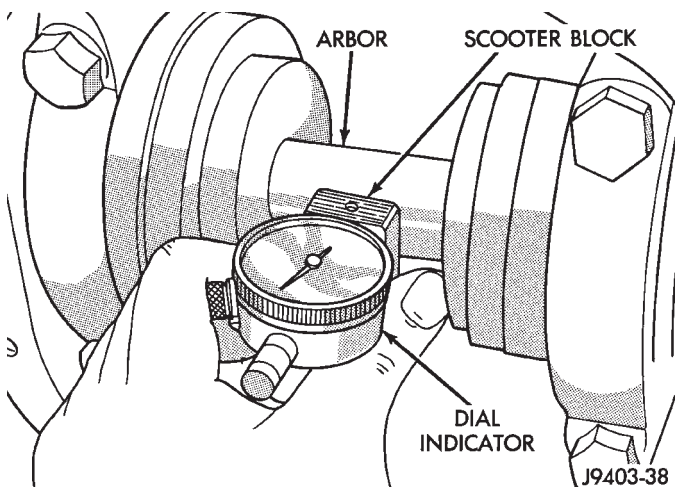

Fig. 46 Pinion Depth Measurement
(5) Firmly place Scooter Block and Dial Indicator on pinion height block tool and zero the dial indicator pointer.
(6) Slide the Scooter Block across the arbor while observing indicator (Fig. 46). Record the longest travel distance, whether inward (−) or outward (+), indicated by the pointer.